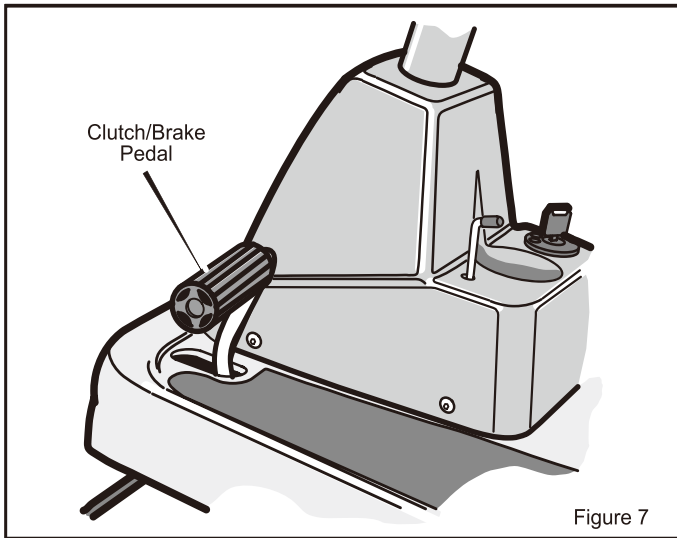

Figure 7
1. Completely push the **clutch/brake pedal** forward to stop the unit. Keep your foot on the pedal (see Figure 7).